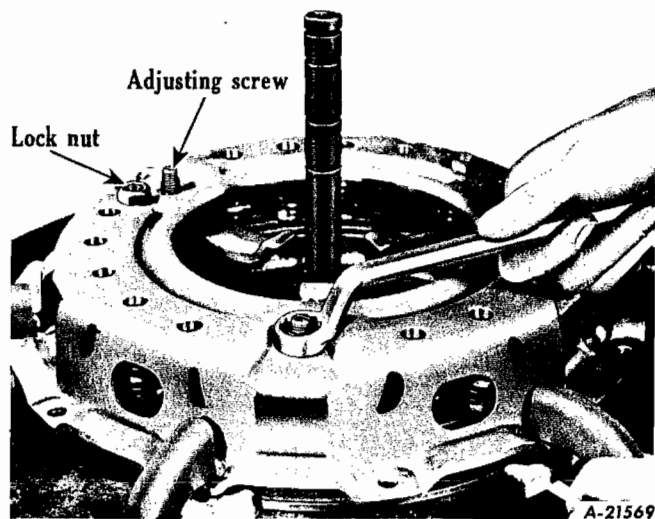

Fig. 13 - Remove adjusting screw lock nuts.
Loosen and remove lock nuts (B) from adjusting screws (C), Fig. 13. Screw adjusting screws (C) out of cover (D) turning screws clockwise three or four turns at a time while slightly releasing pressure on backing plate. Repeat until pressure from the clutch pressure springs is relieved and adjusting screws (C) are free of cover (D). This procedure of gradually releasing the assembly and backing out of the screws (C) must be followed in order to avoid damage to the lever assemblies (K).